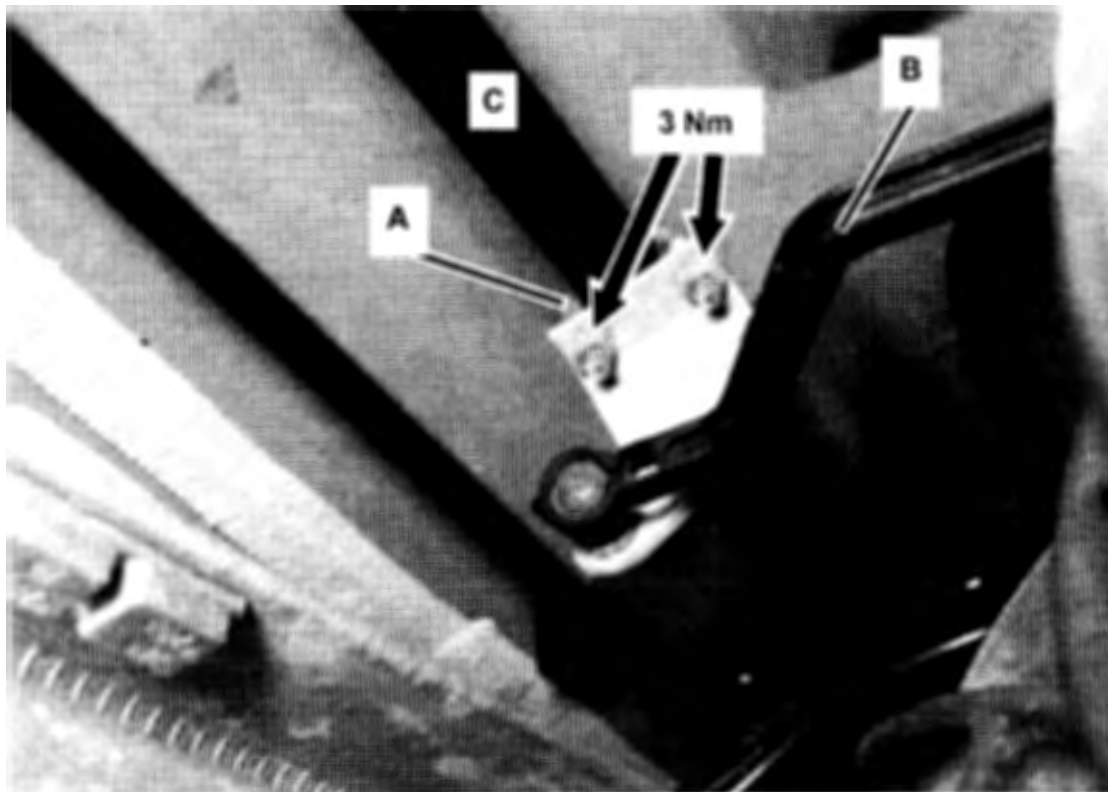

Figure 2
1. Unscrew U-bracket (A, Figure 2) for level linkage (B) at stabilizer bar (C).
Note: Torque new nuts (arrows, Figure 2) to 3 Nm when installing new level linkage assembly (B, Figure 2).